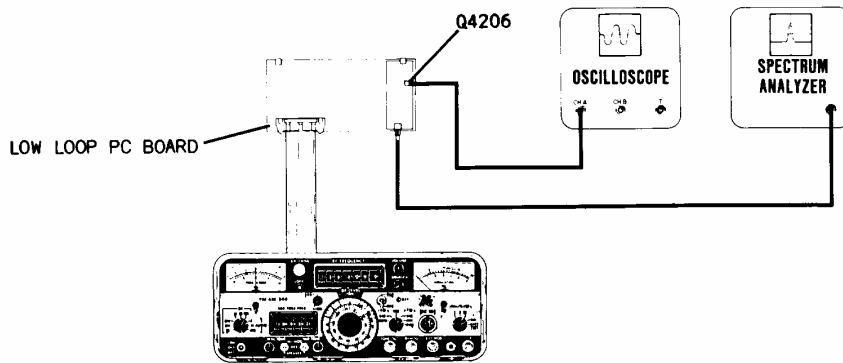

Figure 7-7 Low Loop Synthesizer Test Set-up
C. PREPARATION (Refer to Figure 7-7 and Low Loop PC Board Drawing in Section 9)